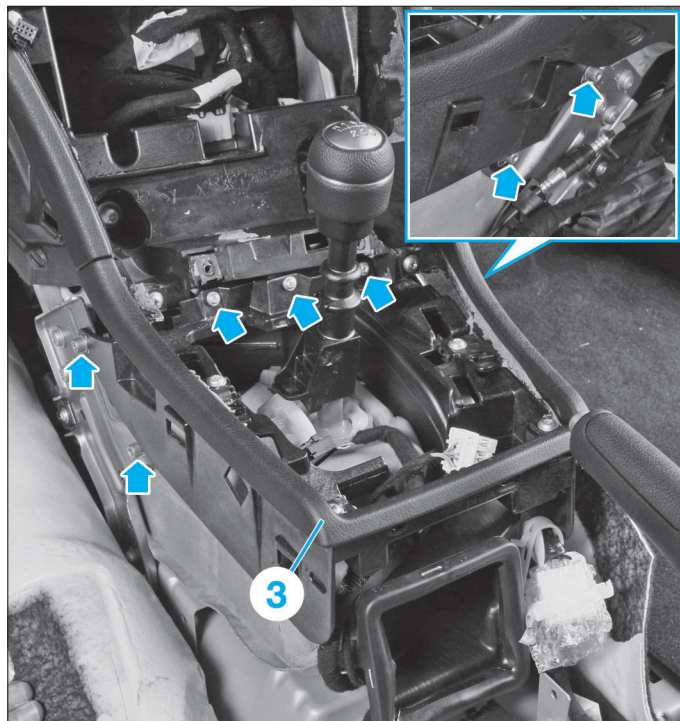

FIG. 5
- Déposer le support (3) (Fig.5).